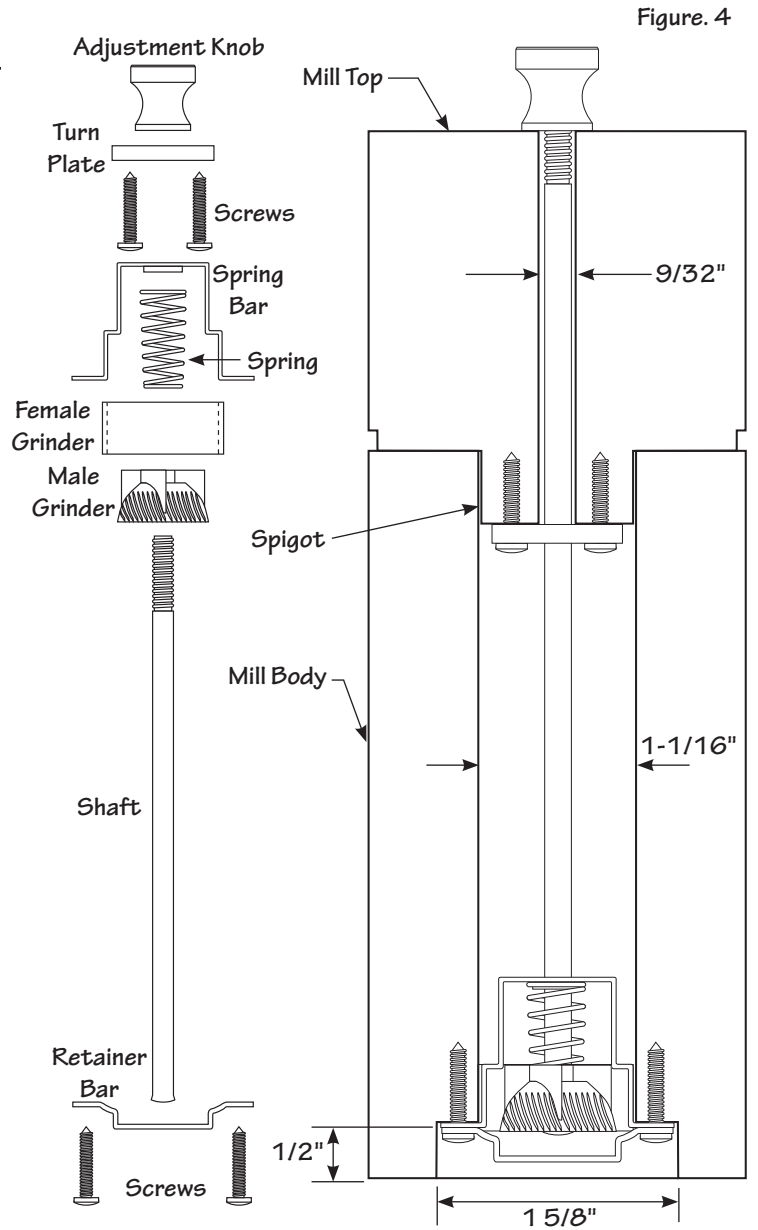

Figure. 4
5. Assemble the Pepper Mill according to Figure 4.